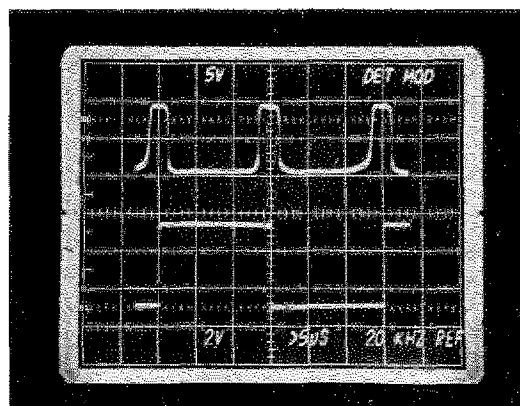

FIGURE 6-2
- (1) Set A203R90 fully ccw (counter-clockwise).
- (2) Set counter to Band B, MANUAL SELECT, and 01.0 GHz PRESET FREQUENCY.
- (3) Jumper A202TP1 to TP3. Ground A202TP5.
- (4) Connect oscilloscope Channel A to A202U1 pin 9, and Channel B to A202U1 pin 4.
- (5) Adjust A202R89 for a symmetrical waveform as shown in the upper trace of Figure 6-2. (All pulses in the train should be of equal duration.)
- (6) If necessary, select a new value for A203R93 so the leading and trailing edges of the 20 kHz reference (lower trace) occur in the center of the detected modulation pulses. (If A203R93 is changed, re-adjust A202R89 as stated in (5) above.)